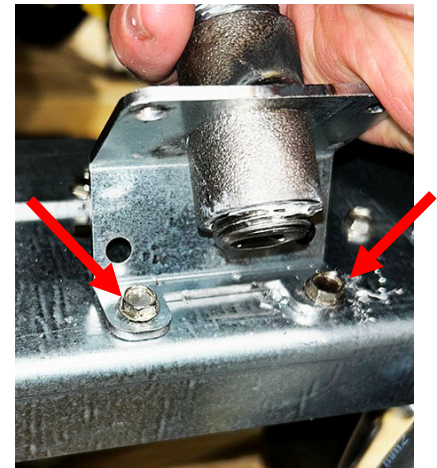

Figure 8
15. Attach with 8090412 5/16" cabinet screws (see Figure 8).